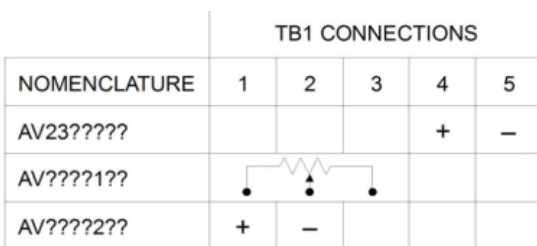

Figure B-11. Wiring Connections
1. If equipped with optional 4 to 20-mA position transmitter (Type AV1\_\_\_\_1\_\_), connect a 24-VDC power supply in series with the required output load (500 Ω at 24 VDC, 1000 Ω at 34 VDC) to terminals TB1-1 (+) and TB1-2 (-) (Fig. B-11). Refer to Appendix A of Installation Manual for detailed information about position transmitters.
1. Connect the 4 to 20mA position demand signal wires to terminals TB1-4 (+) and TB1-5 (-) of the terminal block (Fig. B-11). If you have a Type AV2\_\_\_\_0\_\_ positioner, go to Step 4.